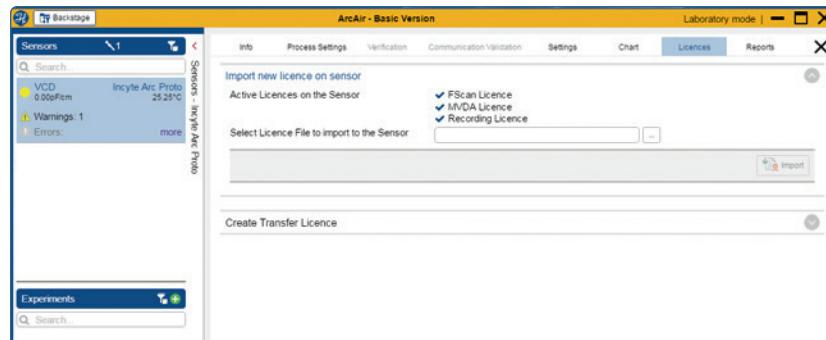

Figure 33: License Import
- 2) Select the corresponding license file «.ini» and press import (figure 33).